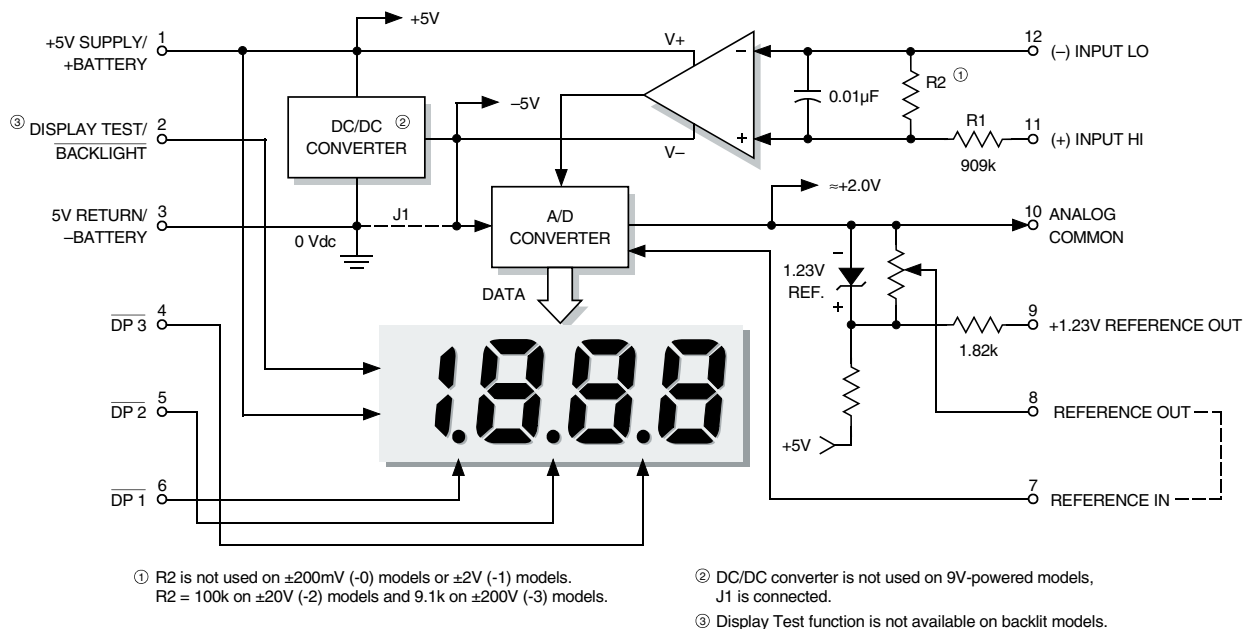

Figure 1. DMS-30LCD Series Simplified Schematic
- ① Applies for transient or continuous overvoltages applied to (+) INPUT HI (pin 11) with (–) INPUT LO (pin 12) properly connected. Pin 12 is not overvoltage protected (see Figure 1). Voltages applied to pin 12 should not exceed the supply voltage.
- ② Listed spec applies to 5V-powered models only. For 9V-powered models, both (–) INPUT LO (pin 12) and (+) INPUT HIGH (pin 11) must always be at least 1.5V above –BATTERY (pin 3) and at least 1 5V below +BATTERY (pin 1).
- ③ See Technical Notes.